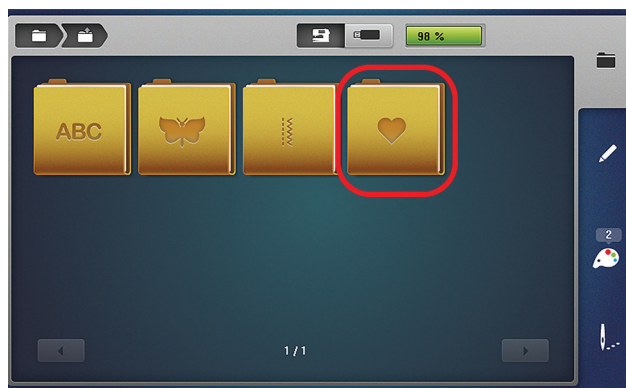

Fig. 34
3. To add to an existing motif, select Add Motif (+) from the Layer Bar, then Personal Memory (Fig. 34).